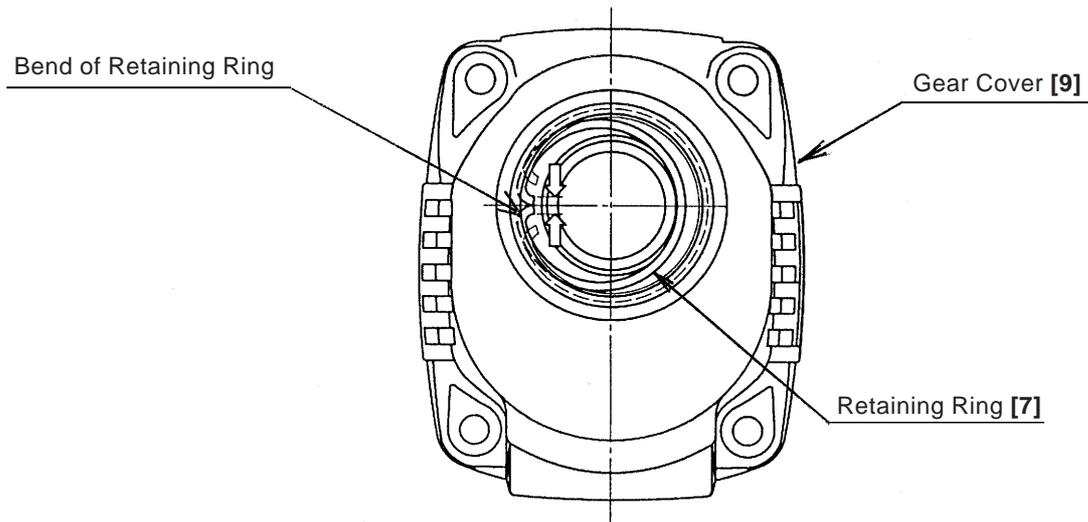

Fig. 5
- Take the Inner Cover [36] off of the Gear Cover [9], and remove the entire chuck section. Extract the Retaining Ring for D20 Shaft [6]. (For easy removal of this retaining ring, use of special repair tool J-200 snap ring pliers [Code No. 970976] is recommended.) Then, turn the Gear Cover [9], upright and use a hand press to extract the Cylinder [23] from the Gear Cover [9]. The Sleeve [18] can then be extracted from the Cylinder [23]. At this time, be very careful not to lose the three Steel Balls [22]. Remove the Retaining Ring D30 [27] from the upper part of the Cylinder [23]. The second Gear [24], Spring (A) [25] and Washer (A) [26] can then be removed from the Cylinder [23]. Next, extract the O-Ring [30] from the inner part of the Cylinder [23], and the Second Hammer [28] can be extracted from the Cylinder [23]. (For easy extraction of this O-Ring [30], fit a special repair tool J-201 spring hook [Code No. 970977] onto the outer circumference of the O-Ring [30], and pull it out.) As the O-Ring [30] is employed to prevent idle striking, please advise customers to replace it with a new one whenever it is disassembled.
- Extract the Retaining Ring for D37 Hole [20], turn the Gear Cover [9] so that its tip portion is upward, and extract the Ball Bearing [19] from the Gear Cover with a hand press. Pinch the bend of the Retaining Ring [7] with a pair of long-nose pliers in the arrow direction shown in Fig. 5. Catch the loosened Retaining Ring [7] with the spring hook H-75 [J-201] and pull it out.